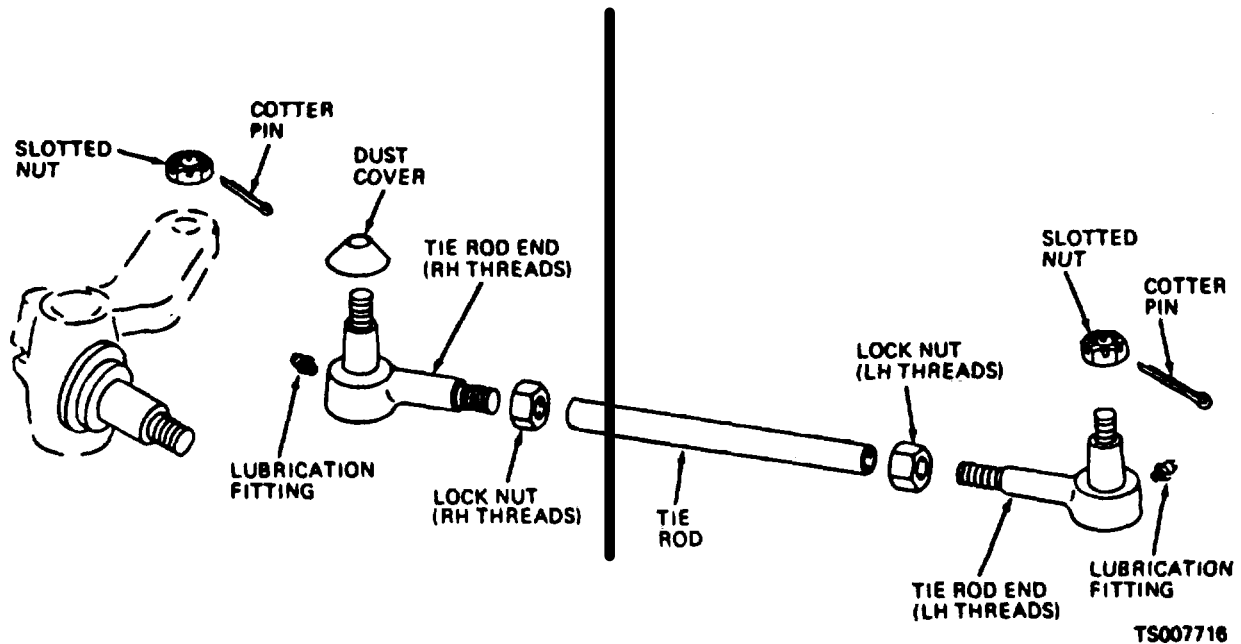

Figure 13-1. Tie Rod, Disassembly and Reassembly.
a. Remove the tie rods from the spider and steering knuckles of the steering axle. Disassemble as shown in figure 13-1.
a. Reassemble the locknuts and tie rod ends on the tie rods as shown in figure 13-1. Do not tighten the locknuts until the tie rod length is adjusted.
e. Inspect the knuckle pins (39, fig. 13-1) for wear, scoring, or distortion; replace damaged pins.
c. When installing the expansion plugs (48), position them in the bores with the convex side out and tap the center of the plug to expand it. Stake the plugs into place.
KEY to figure 13-1: